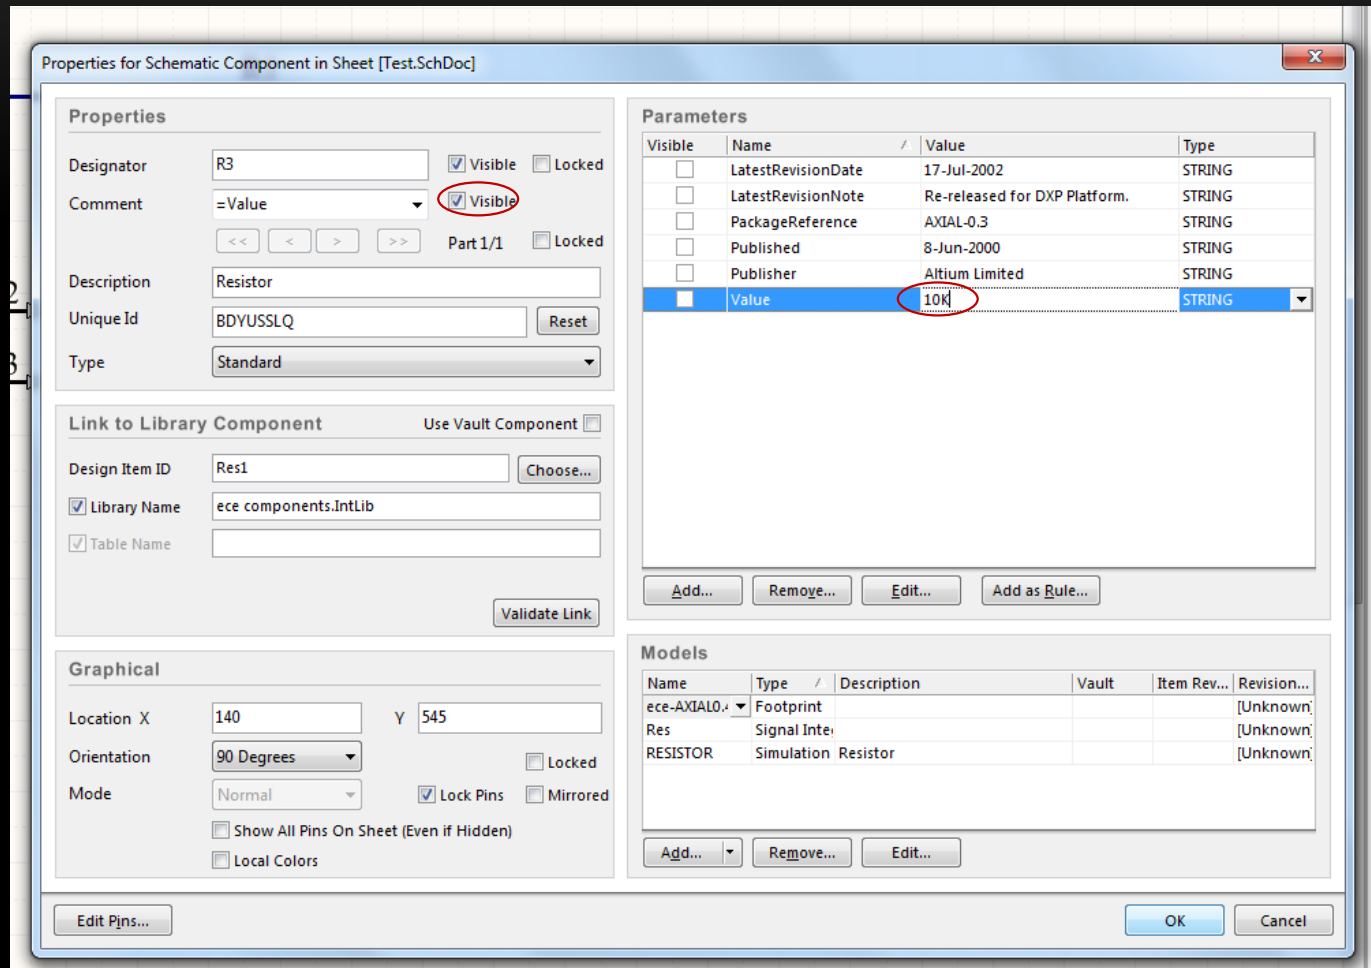

Figure 21
- Make sure the comment is visible. (Figure 21). Your design would be similar to figure below.